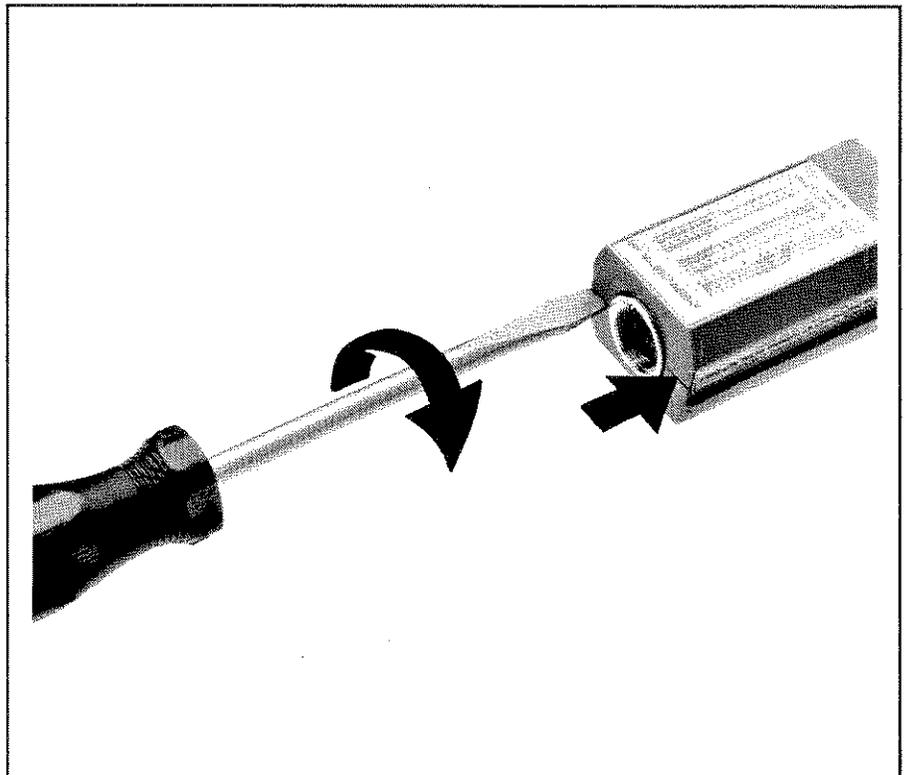

Figure 5. Removing the Power Sensor's Cover
1. Insert the blade of a large screwdriver between the two-piece plastic shell at the rear of the Power Sensor. Gently pry the sections apart. (See figure 5.)